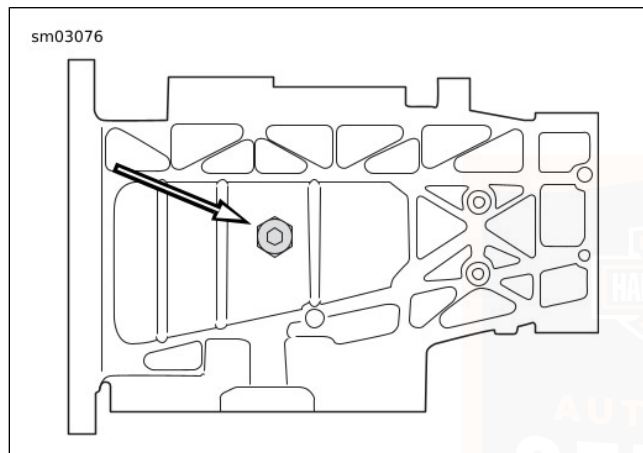

Figure 32. Transmission Drain Plug (Bottom View)
2. See Figure 32. Remove transmission drain plug. Drain lubricant into a suitable container.